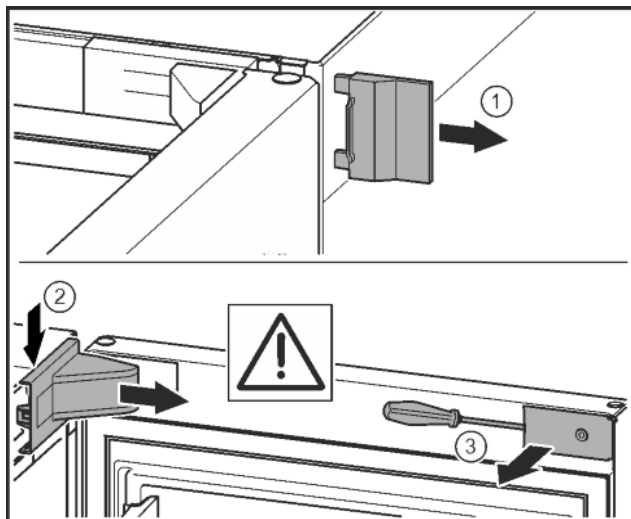

Fig. 10
► Remove the outer cover. Fig. 10 (1)
► Disengage and release the bearing bracket cover. Remove the bearing bracket cover. Fig. 10 (2)
► Unlatch the panel with a slotted screwdriver and swivel it to one side. Fig. 10 (3)